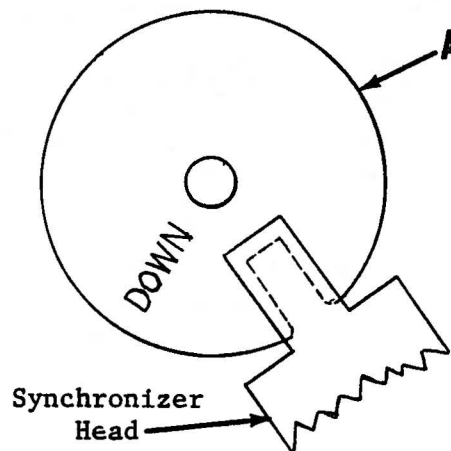

Fig. 22
- a) With power off, turn the handwheel in operating direction until hook is at loop taking time, with needle on upstroke. Rotate the needle-down disc (A, Fig. 22) until its opening is centered in the synchronizer head.